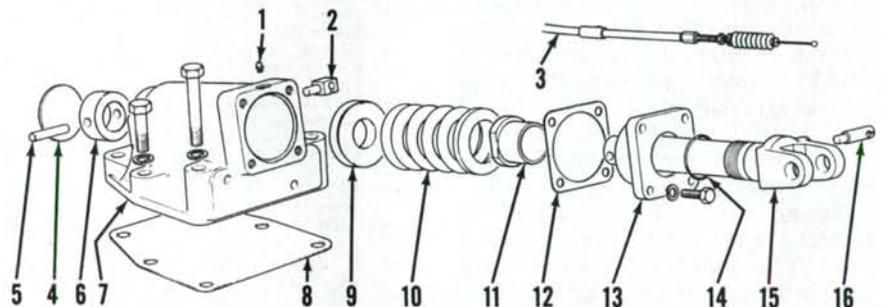
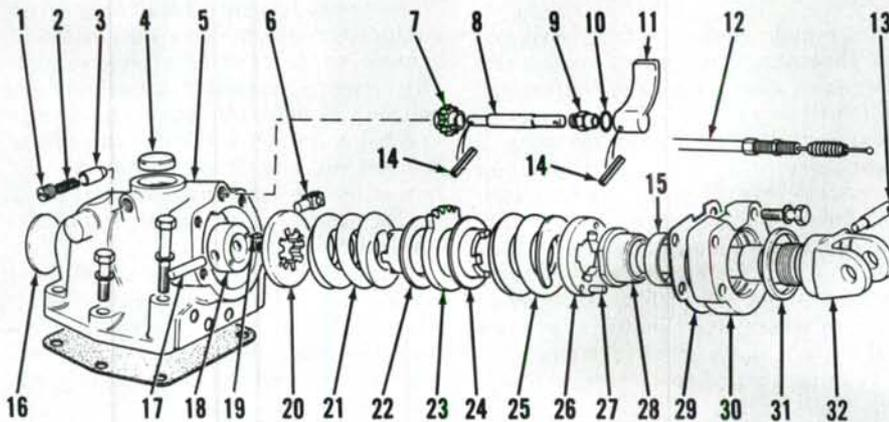

Fig. 275—Exploded view of single rate draft sensing unit used on some models.
Fig. 276—Exploded view of selective rate draft sensing unit used on some models.
rate sensing unit (Fig. 275) or a selective rate sensing unit (Fig. 276). Sensing unit function is to maintain a set draft load by varying operating depth of a ground engaging implement. Resistance created from pulling implement through the ground is transmitted through hitch upper link to draft sensing unit. This resistance causes movement of draft sensing spring which is relayed through linkage to selectomatic valve control spool. Movement of control spool will cause lift linkage to raise, lower or stay in position in accordance with amount of resistance causing spring movement.
**345. SINGLE RATE SENSING UNIT.** To remove, disconnect draft sensing cable (3—Fig. 275). Remove top link from sensing unit. Remove mounting bolts from hydraulic remote coupler bracket. Remove mounting bolts retain-
To disassemble, remove plug (4—Fig. 276) from top of housing and move selector lever (11) so it points towards top of housing. Remove end plate (30) mounting bolts, then pull shaft assembly out of housing. Drive pin (17) out of collar (18), then slide parts off shaft. Secure sleeve (28) in a vise, then turn shaft counterclockwise. Note that shaft will be tight as Loctite is applied to threads on assembly.